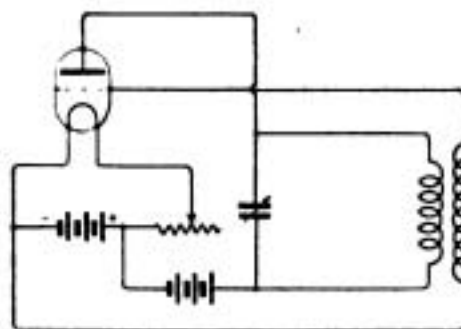

Fig. 1.
M.A.R.H. (Bridlington).—(1) About 10" long. Such a coil would, of course, be of little use for short waves, owing to dead-end and self capacity effects.
(2) For a separate heterodyne set for use with a crystal receiver, see Fig. 1. The coils may be the